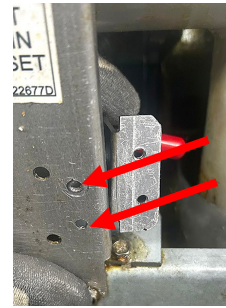

Figure 15
31. Hold the bracket with rod in place and drill two pilot holes through the vertical frame and bracket (see Figure 15).